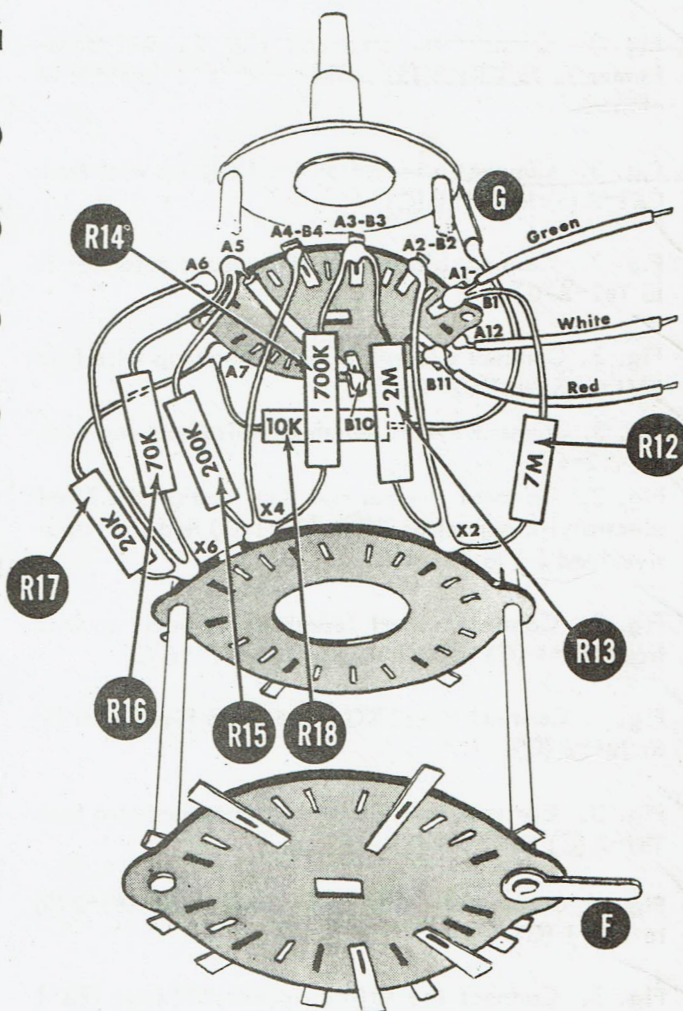
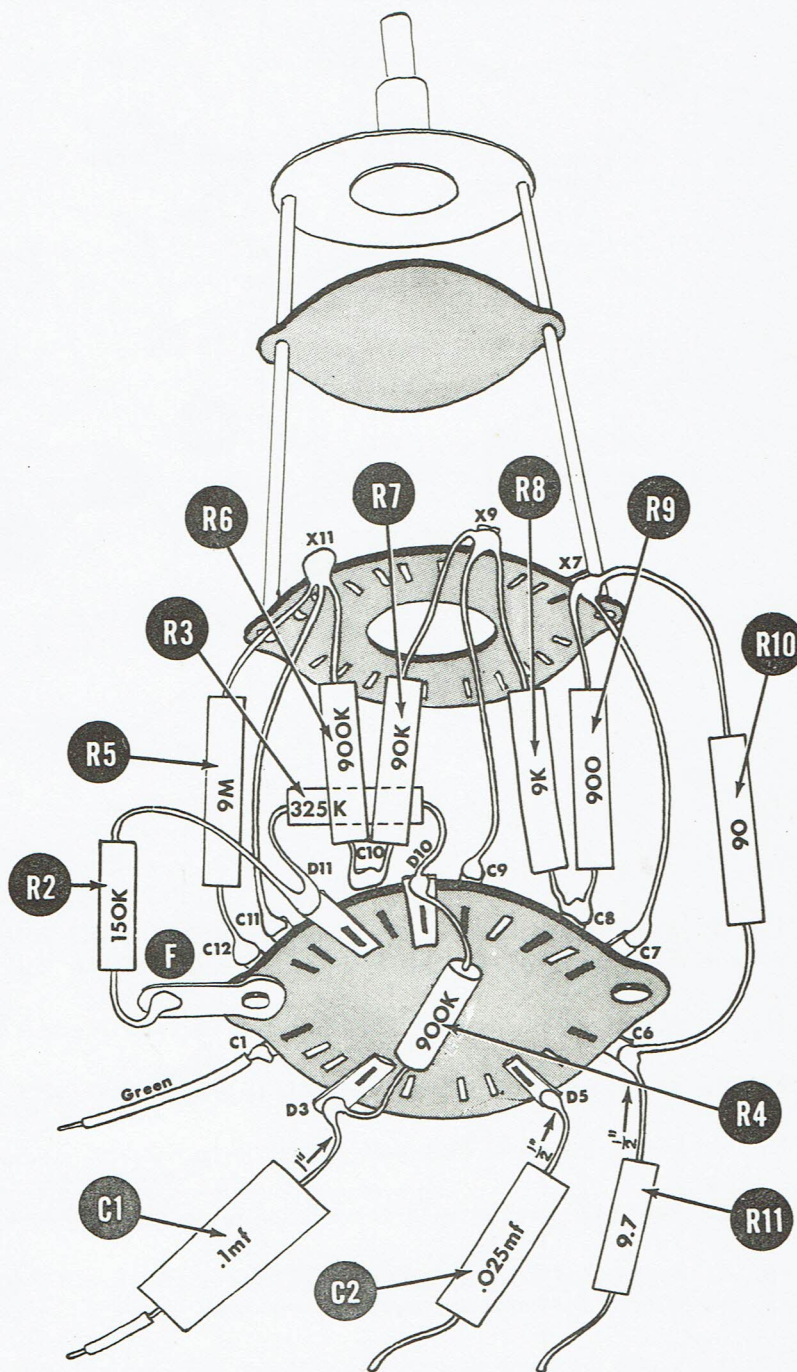

Fig. 4
Fig. 5
IMPORTANT: Before prewiring S2, see Fig. 4 and note the position of lug "F" on the rear wafer in relation to how the switch is being viewed in the drawing. This should enable you to correctly identify the contacts on the actual switch that correspond to the contacts shown in Fig. 4.
- (✓) Fig. 4. Connect a length of hook-up wire from A5 (C) to B10 (S). The A side of the wafer is closest to the detent mechanism.
- (✓) Fig. 4. Connect a length of bare wire from A6 (S) to X6 (C). The X designation will be used for the switch wafer containing the dummy lugs.
- (✓) Fig. 4. Connect a length of bare wire from A4-B4 (S) to X4 (C). When the double designation A4-B4 is used, it means the two switch lugs are electrically connected together by the rivet holding them to the wafer.
- (✓) Fig. 4. Connect a length of bare wire from A2-B2 (S) to X2 (C).
- (✓) Fig. 4. Connect the 10 K Ω resistor R18 from ground lug "G" (S) to A7 (C).
- (✓) Fig. 4. Connect the 20 K Ω resistor R17 from A7 (S) to X6 (C).
- (✓) Fig. 4. Connect the 70 K Ω resistor R16 from X6 (S) to A5 (C).
- (✓) Fig. 4. Connect the 200 K Ω resistor R15 from A5 (S) to X4 (C).
- (✓) Fig. 4. Connect the 700 K Ω resistor R14 from X4 (S) to A3-B3 (C).
- (✓) Fig. 4. Connect the 2 M Ω resistor R13 from A3-B3 (S) to X2 (C).
- (✓) Fig. 4. Connect the 7 M Ω resistor R12 from X2 (S) to A1-B1 (C).
- (✓) Fig. 4. Connect a 5 in. length of green hook-up wire to A1-B1 (S).
- (✓) Fig. 4. Connect a 4 in. length of white hook-up wire to A12 (S).
- (✓) Fig. 4. Connect a 6 in. length of red hook-up wire to B11 (S).
() Fig. 5. Note that in Fig. 5 the switch is being viewed from the side that faced away from the observer in Fig. 4. Again note the position of lug "F" on the rear wafer in relation to how the switch is being viewed in the drawing. This should enable you to correctly identify the contacts on the actual switch that correspond to the contacts shown in Fig. 5.
- (✓) Fig. 5. Connect a length of bare wire from C11 (S) to X11 (C).
- (✓) Fig. 5. Connect a length of bare wire from C9 (S) to X9 (C).
- (✓) Fig. 5. Connect a length of bare wire from C7 (S) to X7 (C).
- (✓) Fig. 5. Connect the 9M Ω resistor R5 from C12 (S) to X11 (C).
- (✓) Fig. 5. Connect the 900 K Ω (1/2 watt) resistor R6 from X11 (S) to C10 (C).
- (✓) Fig. 5. Connect the 90 K Ω resistor R7 from C10 (S) to X9 (C).
- (✓) Fig. 5. Connect the 9 K Ω resistor R8 from X9 (S) to C8 (C).
- (✓) Fig. 5. Connect the 900 Ω resistor R9 from C8 (S) to X7 (C).
- (✓) Fig. 5. Connect the 90 Ω resistor R10 from X7 (S) to C6 (C).
- (✓) Fig. 5. Connect the 9.7 Ω resistor R11 to C6 (S).
- (✓) Fig. 5. Connect the 150 K Ω resistor R2 from gnd lug F (S) to D11 (C).
- (✓) Fig. 5. Connect the 325 K Ω resistor R3 from D11 (S) to D10 (C).
- (✓) Fig. 5. Connect the 900 K Ω (1 watt) resistor R4 from D10 (S) to D3 (C).
- (✓) Fig. 5. Connect the .1 mf capacitor C1 to D3 (S).